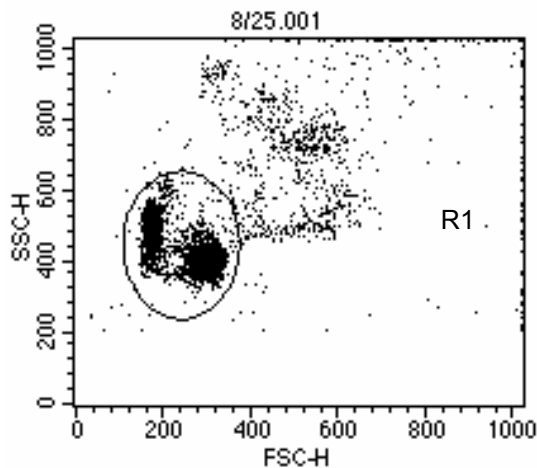
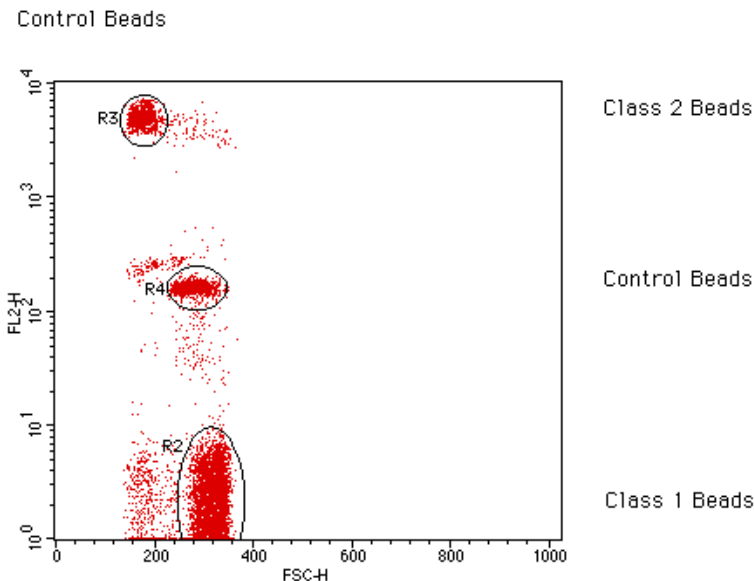
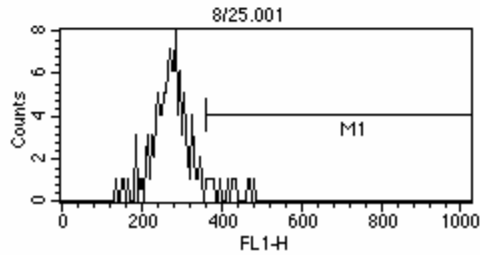

Figure 1. FSC vs. SSC Dot Plot of FlowPRA® Screening Beads
Figure 2. FL2 vs. FSC Dot Plot on FlowPRA® Screening Beads and Control Beads (Example)
Figure 3. FL1 Histograms of FlowPRA® Class I or II Beads or FlowPRA® Control Beads Reacting with Negative Serum Control.
1. Gate the major population of FlowPRA® Beads on the FSC vs. SSC dot plot (R1, Figure 1), and obtain an FL2 vs. FSC dot plot (Figure 2).
2. Gate FlowPRA® Class I (R2), Class II (R3) and Control Beads (R4) major population on the FL2 vs. FSC dot plot (Figure 2), and obtain FL1 histogram on each region (Figure 3).